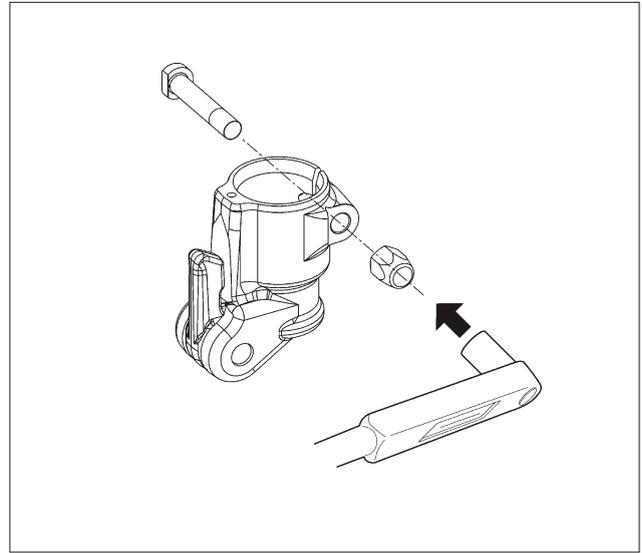

Fig. 4
**TEX 09****Tightening torque (fig 4)**
**TEX 12****Tightening torque (fig 4)**